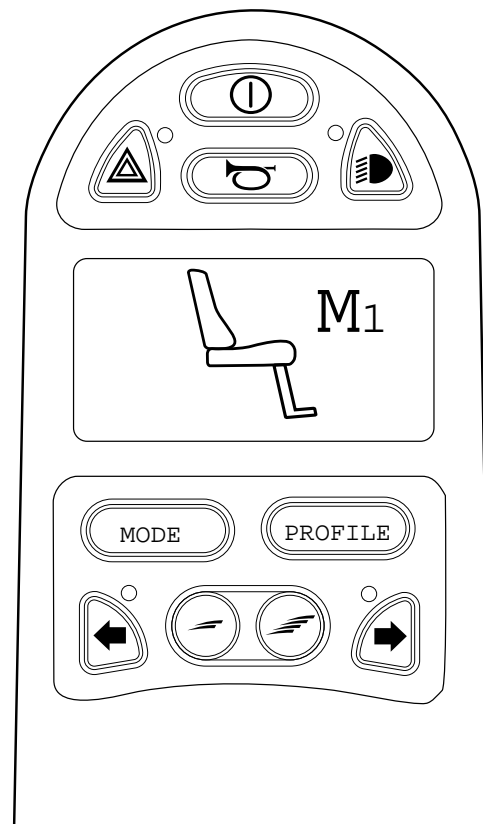

Figure 40. Memory function activated
2. Move the joystick to the left or right to select a memory location (M1, M2 or M3). A seat icon and memory symbol "M" for the memory location selected are shown in the control panel display – see fig. 40.